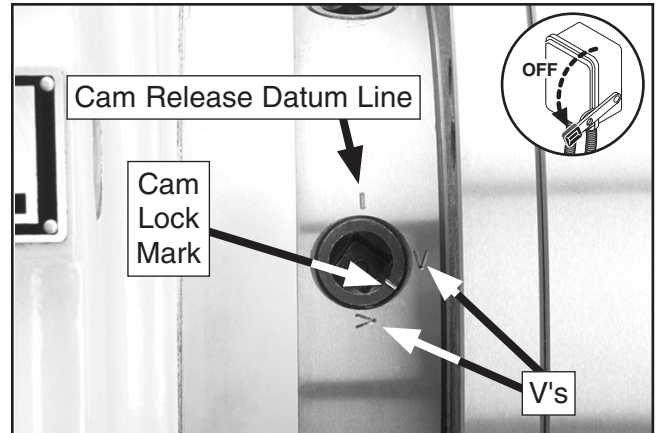

Figure 18. Cam and lock marks.
7. Turn a camlock with the chuck key until the cam line falls between the "V" marks **Figure 18**.
Note: If any of the cam lock marks (**Figure 18**) do not fall between the "V" marks when the cam lock is tight, you must adjust the offending camlock stud as discussed in **Camlock Stud Adjustment on Page 27**.